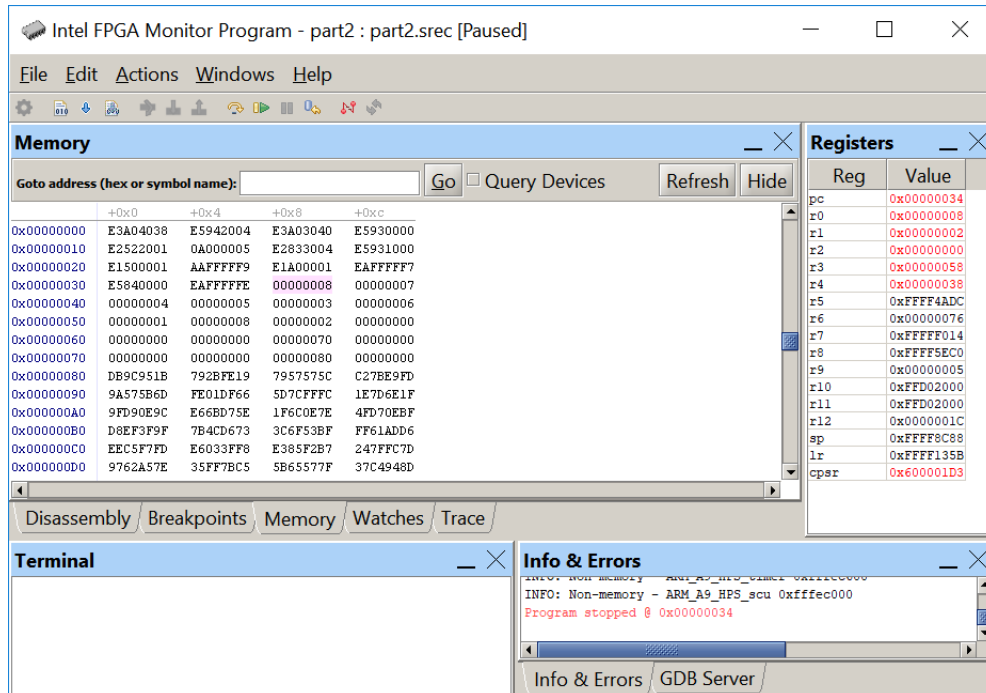

Figure 11: Displaying the result in the memory tab.
4. Execute the program. When the code is running, you will not be able to see any changes (such as the contents of registers or memory locations) in the Monitor Program window, because the Monitor Program cannot communicate with the ARM processor while code is being executed. But, if you pause the program then the Monitor Program window will be updated. Pause the program using the icon  and observe that the processor stops within the endless loop **END: B END**. Note that the largest number found in the sample list is 8 as indicated by the contents of register R0. This result is also stored in memory at the label RESULT. The address of the label RESULT for this program is 0x00000038. Use the Monitor Program's Memory tab, as illustrated in Figure 11, to verify that the resulting value 8 is stored in the correct location.